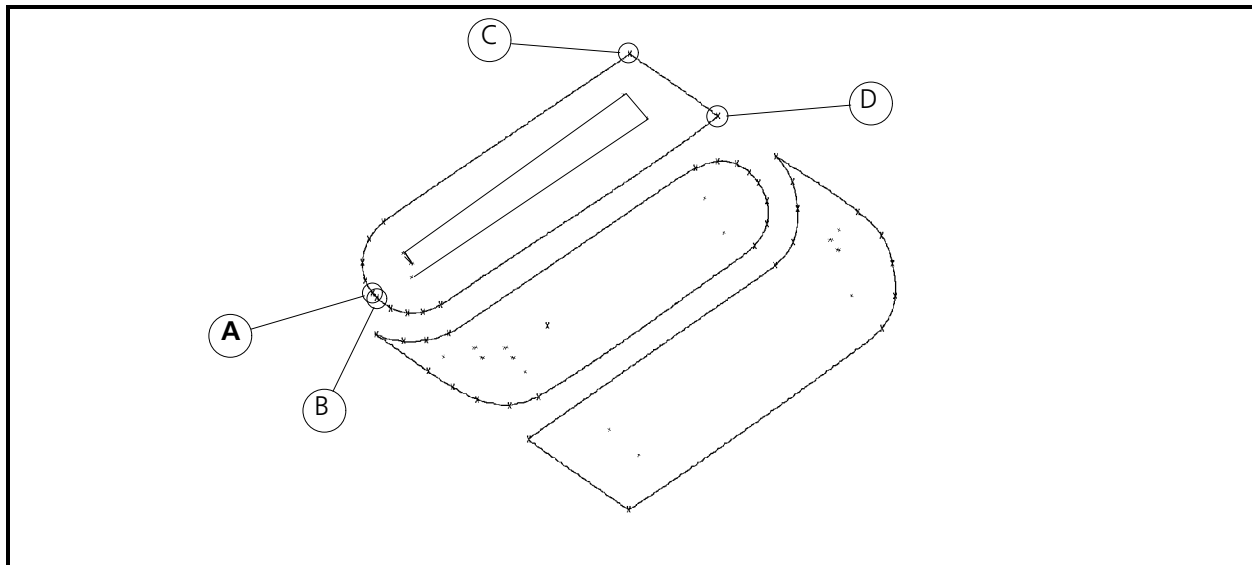

Figure 3-59
4. Next, go to the lower left area of the top section of the logo and enter a Mk1 at point A as shown in Figure 3-59. This first Mk1 (identifying the beginning of the first line of stitches in the fill) will be slightly offset from the exact mid-point of the arc in that shape.